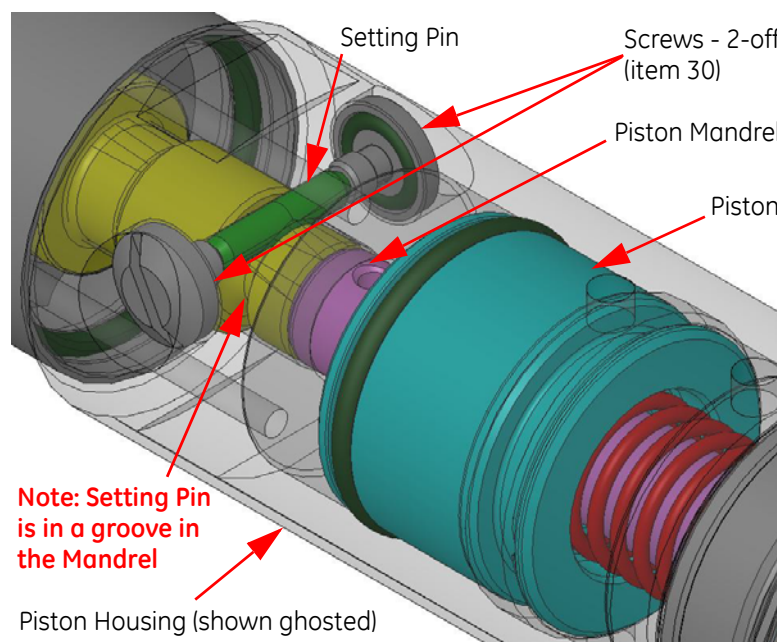

Figure 5-19 Location of the Setting Pin
- 2 Make sure the In-Line Electronics Chassis Assembly (item 2, 416026) is removed. Refer to Section 5.3.1, Removal.
- 3 With reference to Figure 5-19, remove and retain the two Screws (item 30) from the Piston Housing (item 12).
- 4 Use a suitable rod to remove and retain the Setting Pin (item 16) from the Piston Housing.